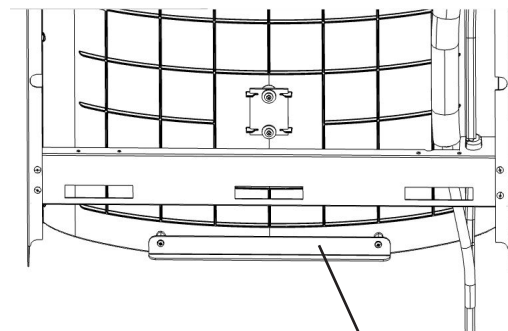

Fig. 8 BRACKET & SCREWS
- 6) **Install gasket** on bottom of bottle filler tower with gasket support bracket & (2) screws (See Fig. 8).